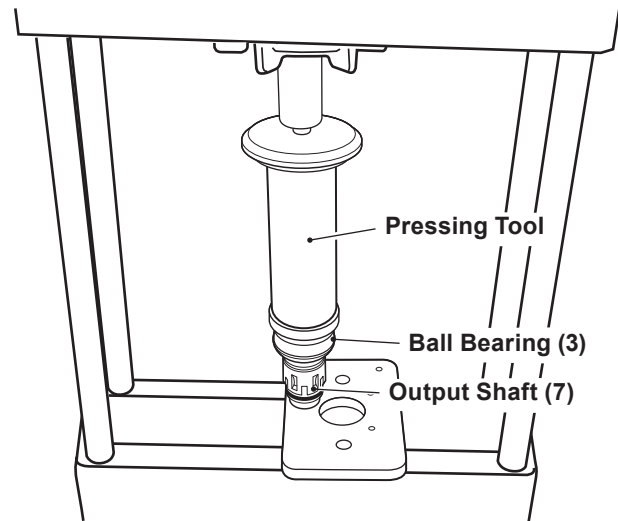

Figure 3, Ball Bearing/Press Tool
3. Place the ball bearing (3) onto output shaft (7) and press into position. See figure 3.